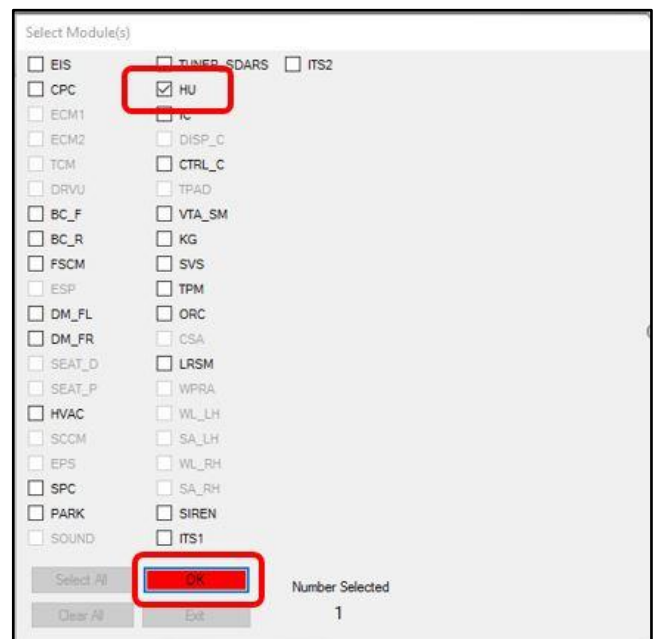

Figure 2
7. Select Module to code and select ‘OK’ (refer to Figure 2).